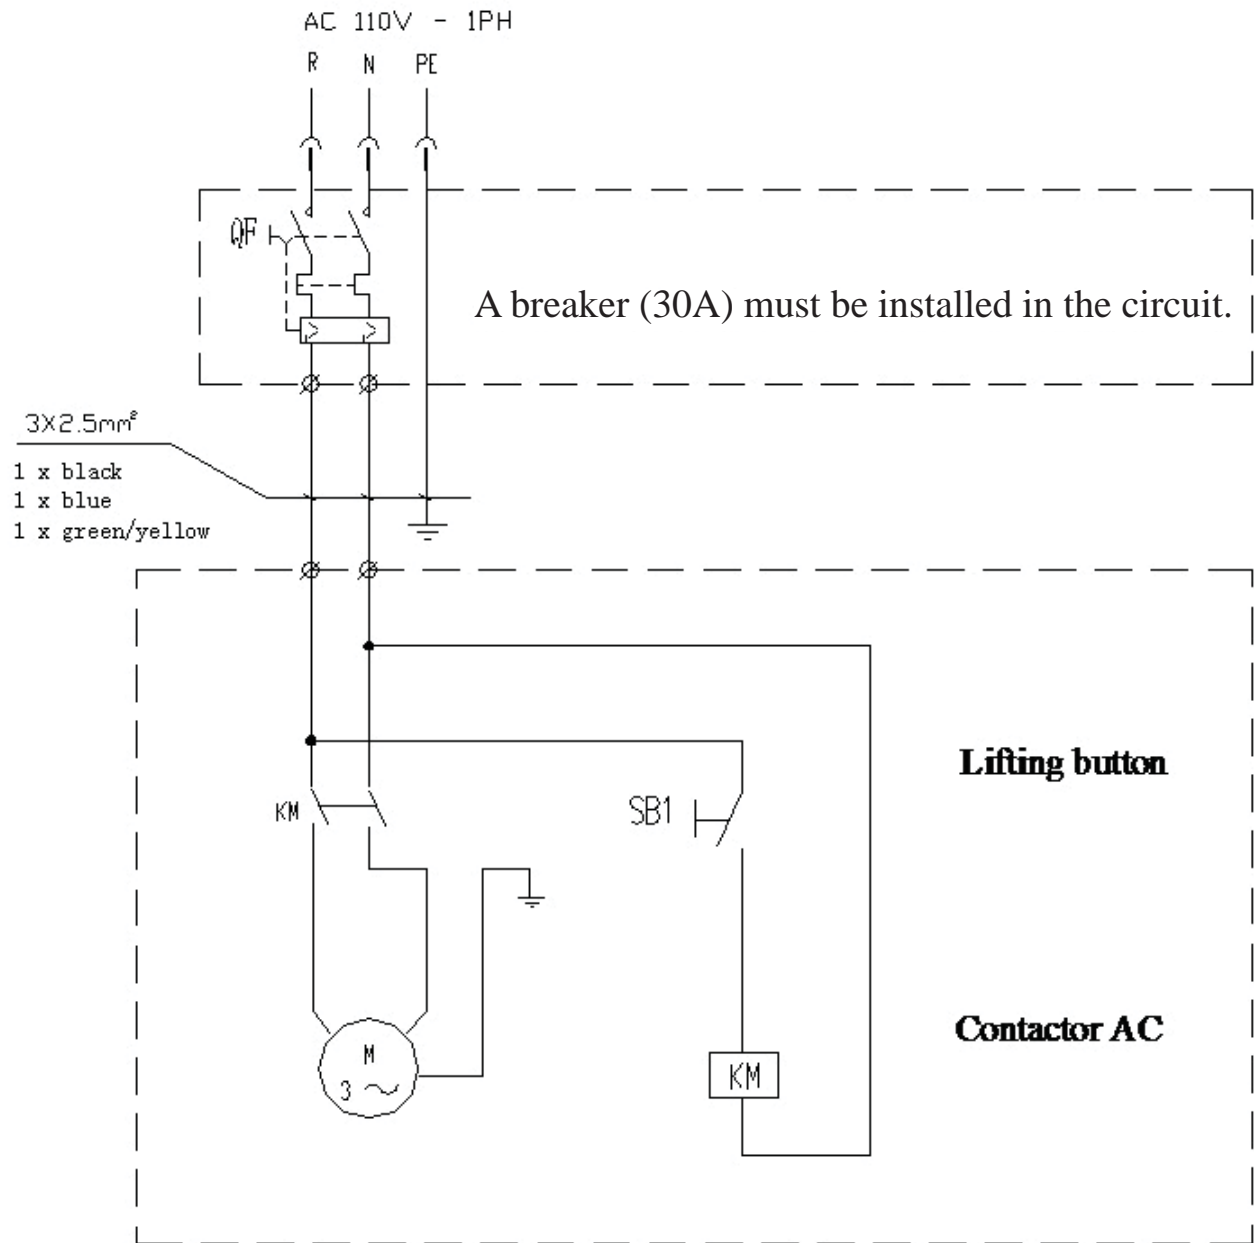

Figure 5 – Electrical Wiring Diagram (110V -1Ph)
Motor connection must be carried out referring to the attached wiring diagrams (figure 5). The motor direction of rotation is shown in the label placed on the motor. Before use of the lift, make sure to check if the motor specification shown in the nameplate of the motor conforms to the local electric supply. If there is over 10% fluctuation on the electrical power supply, it is suggested to use the voltage stabilizer to protect the electrical components and system from overloading.
- Make the electric hookup to the power unit referring to the attached the electric diagram figure 5 using the included electric cable.
- Make sure the electric connections are in compliant with diagrams figure 5